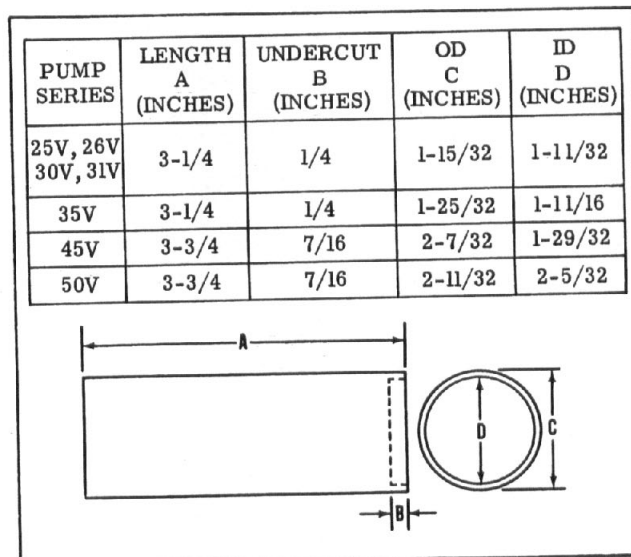

Figure 7 - Shaft Seal Driver.
The driver can be made from tubular stock as shown in Figure 7. The recess in the tool will be deep enough so uniform pressure is applied to the recessed area in the seal channel, rather than on the lip of the seal. The inside diameter of the tool will not interfere with the spring around the lip of the seal.
2. Basic Pump - Soak a new shaft wiper in hydraulic fluid and install the wiper and seal. Use the seal installing tool (Figure 7) to prevent damaging the seal. Be certain the seal O.D. is below the chamfer in the body.